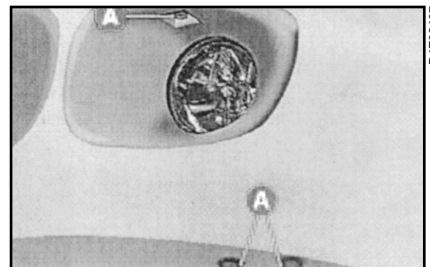

fig. 18
- 1) Loosen the fog light fastening screws **A-fig. 18** to the front bumper.